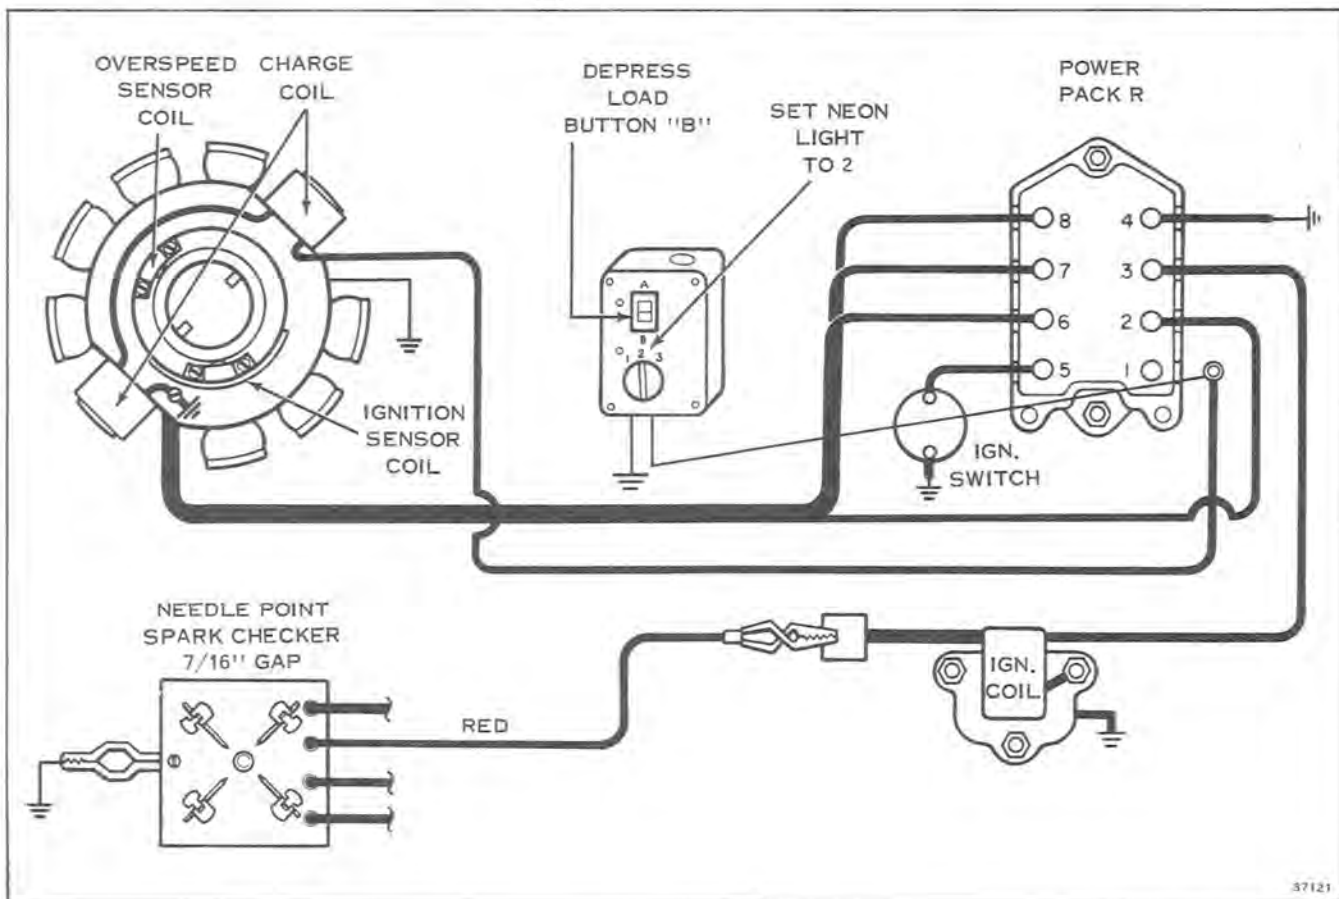

Figure 7-12
- B. Use Neon tester S80 or M80. Connect neon tester black lead to charge coil brown/white stripe lead and tester blue lead to engine ground. See Figure 7-12.
E. Crank engine with starter (or recoil starter) and observe tester neon light. See Figure 7-12.